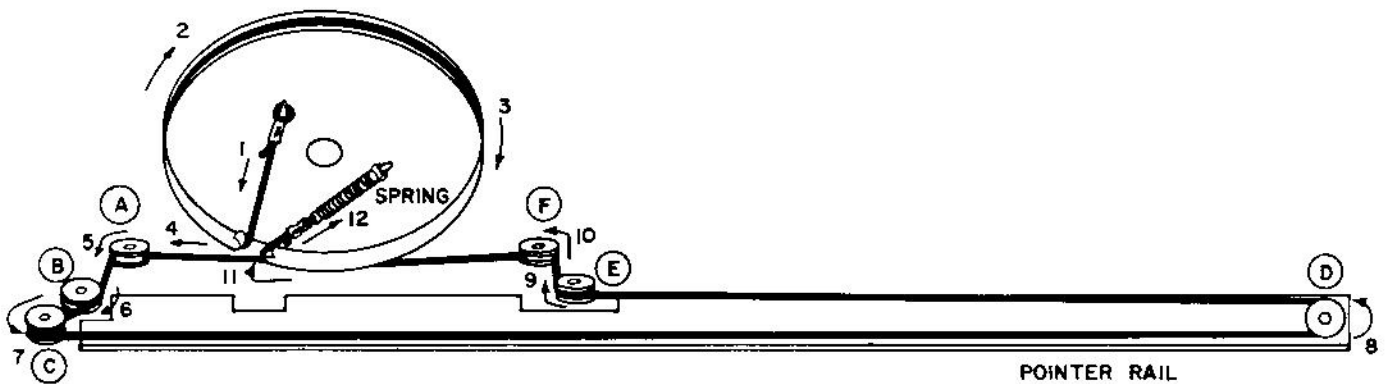

Figure 13. Dial Cord Stringing Diagram
5. Restring the dial cord as follows (Fig 13):
- a. Attach the end of the cord to the tab (1) and pull the cord down and around the wheel (2 and 3) down behind wheel A (4).
- b. Continue up over wheel B (6) up to wheel C (7). Proceed across pointer rail to wheel D (8).
- c. Continue around wheel D to the left and over wheel E (9). Proceed down behind wheel F (10).
- d. Finish up by routing the cord into the wheel slot (11) and attach the spring on the tab (12).